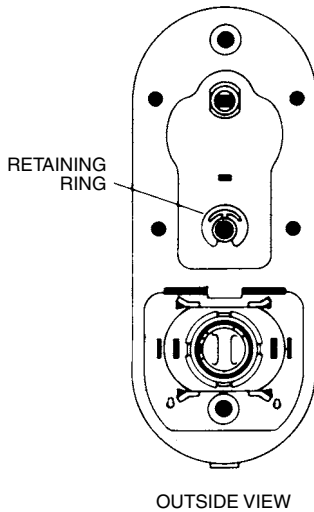

Figure 13.103 Right-hand conversion, Step 11.
11. Install the retaining ring (Fig. 13.103).